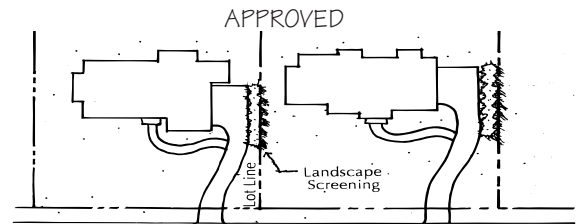

Figure 2.3.4 - \* Not Drawn to Scale
4. Landscape screening will still be required to help screen garage doors from the street and the adjacent Lot. An example of screening can be found in Figure 2.3.4.